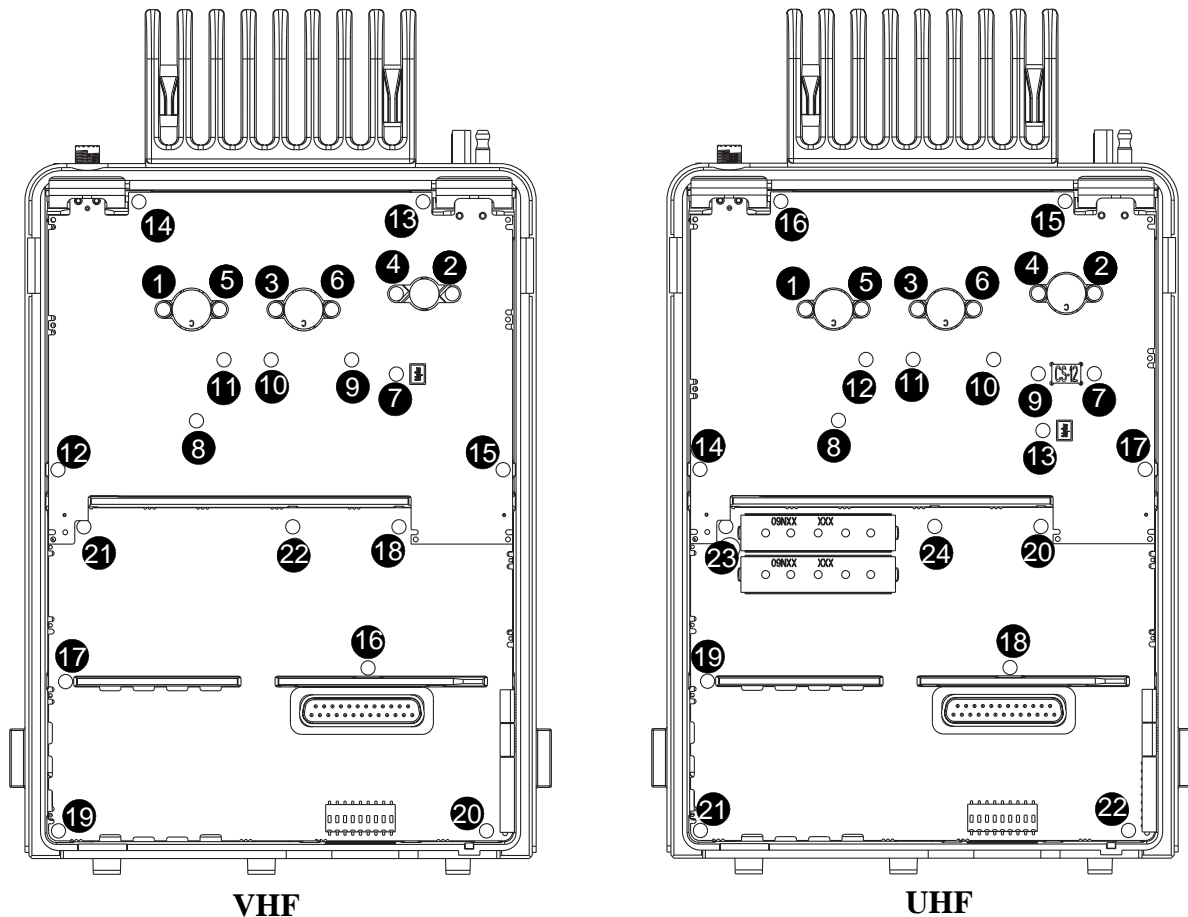

Figure 5-21. Reassembly Screw Down Sequence
NOTE: Observe the screw-down sequence in Figure 5-21 when installing screws. Proper alignment of boards depend on following this sequence.
- Fasten screws #1-6 to 12 in lbs of torque using a T-8 Torx driver. Fasten the remaining screws (#7-20 for VHF models, #7-22 for UHF models) to 6-8 in lbs of torque using a T-10 Torx driver following the screw down sequence in Figure 5-21.